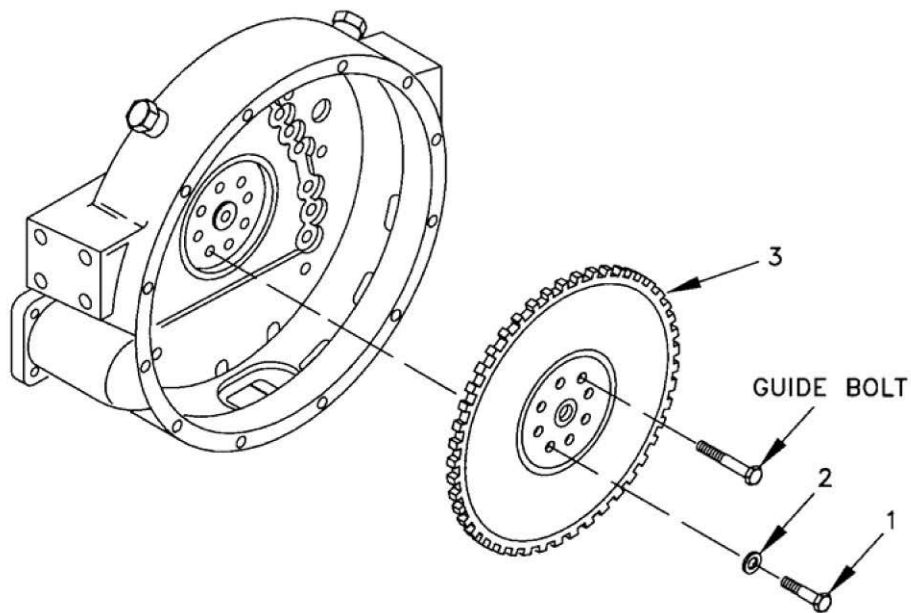

Figure 1. Flywheel.
1. Remove top bolt (Figure 1, Item 1) and washer (Figure 1, Item 2).
2. Install guide bolt that is longer than the top bolt (Figure 1, Item 1) to assist in removal of flywheel (Figure 1, Item 3).
3. Remove seven remaining bolts (Figure 1, Item 1) and washers (Figure 1, Item 2).
4. Remove flywheel (Figure 1, Item 3) from crankshaft, and remove guide bolt.
1. Apply thread locking compound to threads of eight bolts (Figure 1, Item 1).
3. Align arrows on flywheel (Figure 1, Item 3) and crankshaft and position flywheel (Figure 1, Item 3).
4. Install seven washers (Figure 1, Item 2) and bolts (Figure 1, Item 1).
5. Remove guide bolt. Install top washer (Figure 1, Item 2) and bolt (Figure 1, Item 1).
6. Torque eight bolts (Figure 1, Item 1) to 75-100 lb•ft (100-140 N•m).